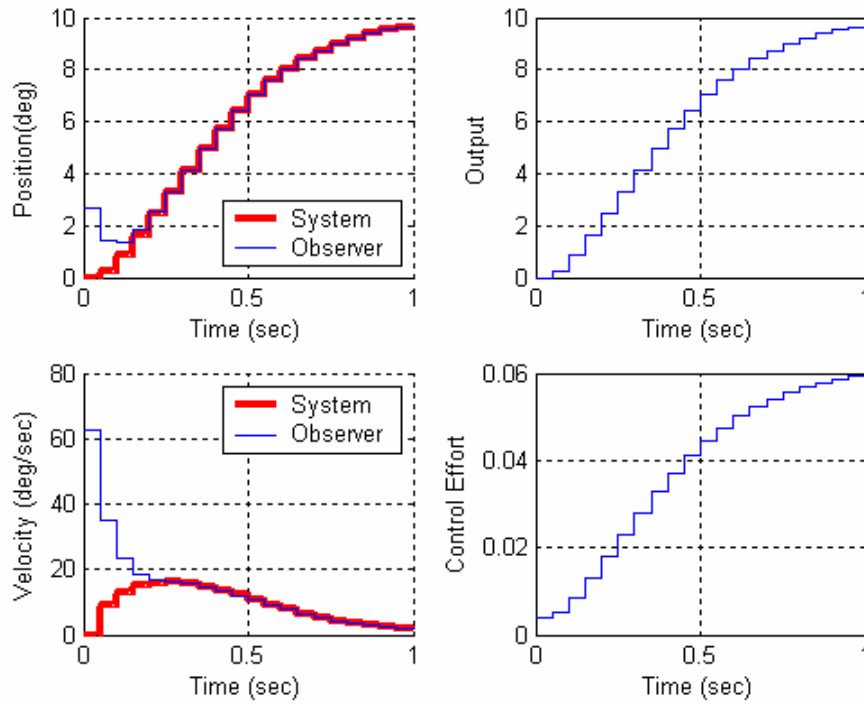

Figure 4: Results for problem 3b.
b) Place all the state feedback poles at 0.7 and all of the observer poles at 0.5. The output of the system is the position of the first disk and this is also the output available to the observer ($C = C_y$ in this case). The disk is initially estimated to be at 10 degrees, the velocity is initially estimated to be 0 degrees. The true system is initially at rest (all initial states are zero) For a 10 degree step input you should get the graph shown in Figure 4. Turn in your plot.